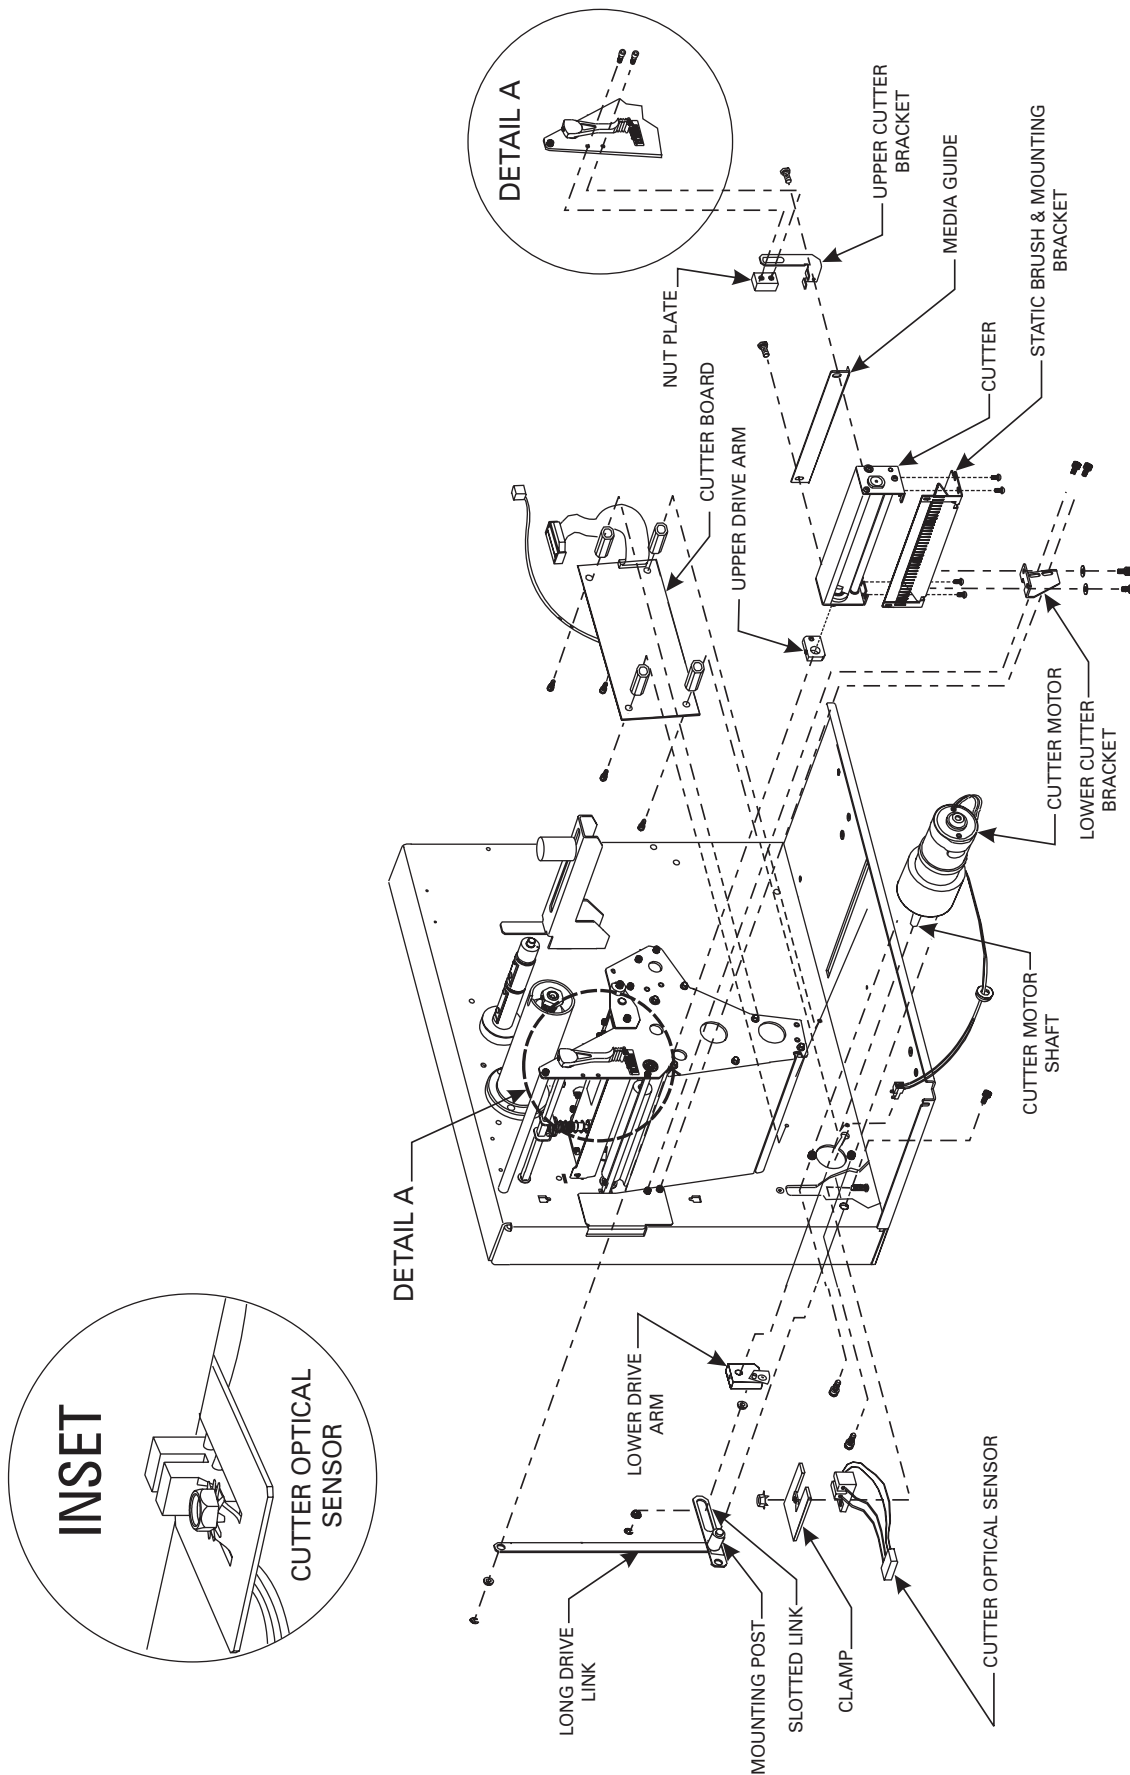

Figure 5.22 Cutter Installation
1. Refer to Figure 5.22. Remove the E-ring that attaches the Lower Drive Arm to the Slotted Link.
1. Refer to Figure 5.22. Position the Cutter Motor near the mounting hole on the mechanical side of the printer.
1. Refer to Figure 5.22. Remove the E-ring and washer from the top of the Long Drive Link.
2. Refer to Figure 5.22, Detail A. At the Side Plate, remove the two socket head cap screws from the Upper Cutter Bracket and Nut Plate.
1. Refer to Figure 5.22. Use the four Phillips head screws to attach the Static Brush Mounting Bracket to the bottom of the Cutter Module.
1. Refer to Figure 5.22. Remove the screw from the Mounting Post on the Drive Link Assembly. Locate the Post in the mounting hole in the frame and, from the media side of the frame, secure the Assembly with the screw.
1. Refer to Figure 5.22. Disconnect all cables from the Cutter Board.
1. Refer to Figure 5.22. Remove the nut that holds the Cutter Optical Sensor Assembly (wires, Sensor Clamp, and Optical Sensor) in position.
1. Refer to Figure 5.22 and the Figure 5.22 inset. Install the Cutter Optical Sensor Assembly on the Sensor Mounting Post. (The Sensor part of the Assembly should be mounted toward the printer frame.)